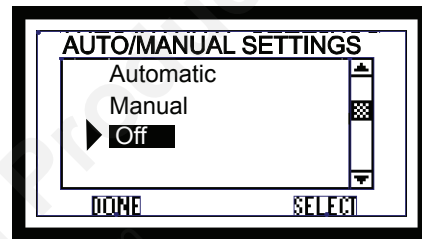

Figure 33.1
1. Set wall control to OFF on AUTOMATIC / MANUAL SETTING screen. **Figure 33.1.**
After servicing, restart with the AUTO/MANUAL SETTINGS screen. **Figure 33.1.**